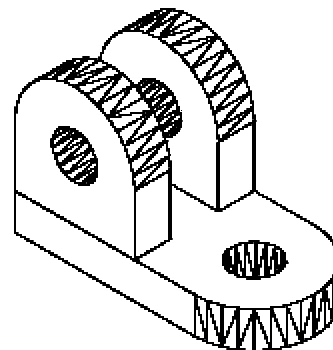

Figure 24-67 Model after mirroring
7. The object after mirroring should look similar to the one shown in Figure 24-67.